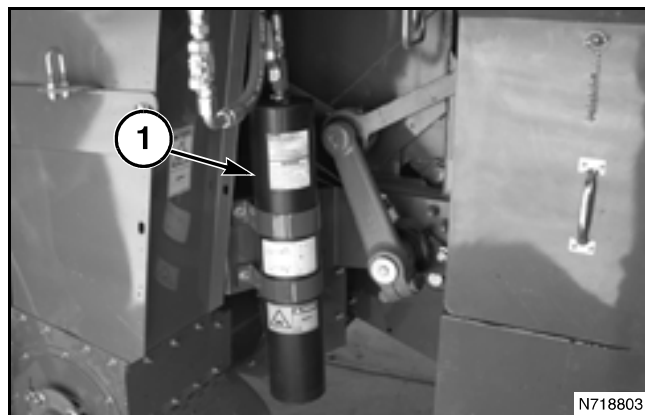

FIG. 442
FIG. 442: To provide smooth performance and shock protection, nitrogen charged hydraulic accumulator (1) is connected into header lift system. Accumulator is a bladder type, with compressed gas on one side and oil from the header lift system on the other. Hydraulic oil flows, in and out of the accumulator, against the pre-charge pressure of the compressed nitrogen gas.